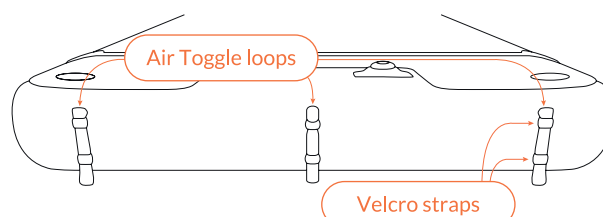

Fig 69 – Undo the Velcro straps to release the Air Toggle loops
9. Ensure that the vertical Air Toggle loops are unfastened in the required locations on both Platforms by releasing the Velcro straps (Fig 69).